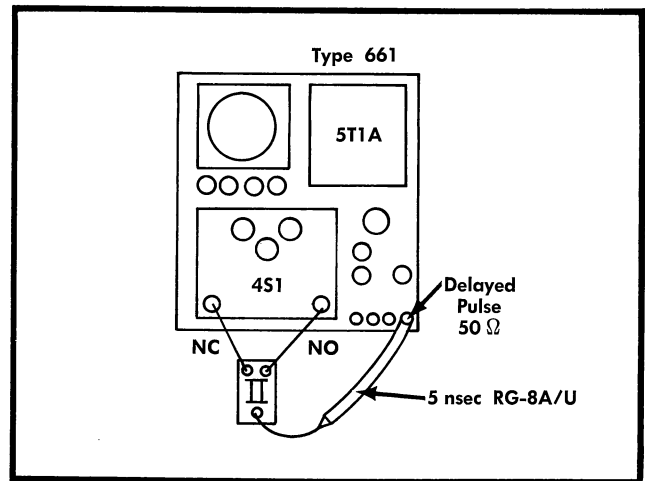

Fig. 4-5. Crosstalk check circuit.
- Set up the system as shown in Fig. 4-5. If the switch is mounted in the Type 261, use a 5-nsec delay RG-8A/U cable in each input to the oscilloscope.